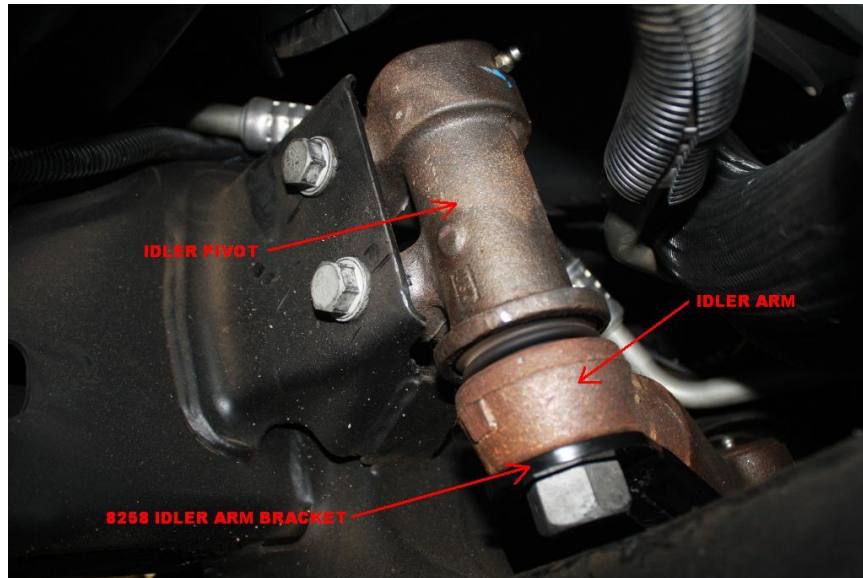
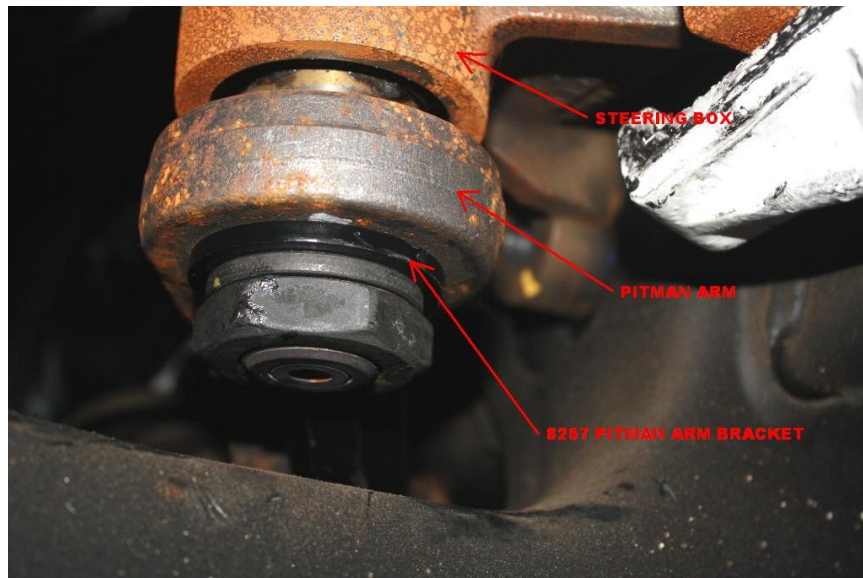

Figure 11: assembly
Figure 12: assembly
12. Re-install the factory lock nut on the pivot stud of the idler arm but do not tighten yet, replace the idler pivot into the mounting pocket and refasten and tighten the 2 bolts to 90 ft/lbs. seen in figure 11. Re-install the factory lock washer and nut on the pivot shaft of the steering box, Do not tighten yet. see figure 12
15. Tighten shank nuts with 1" socket to 70 ft/lbs. Now jam each support bracket in between the jam nuts with both 15/16" boxed end wrenches, to 60 ft-lb. now tighten the factory nuts shown in figures 11 and 12 on the idler arm pivot to 70 ft/lb and the pitman arm to 120 ft/lb, these 2 will only permit an open end wrench due to space constraints, so get them really tight by hand with the wrenches.